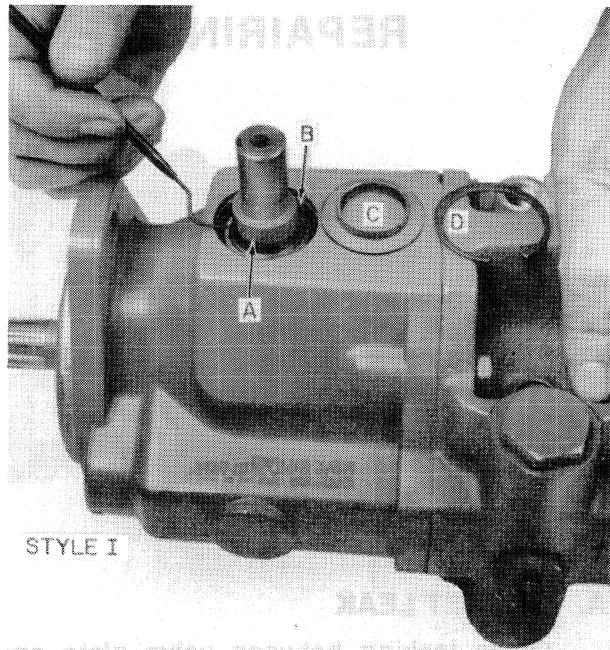

FIGURE 27
Style I seals are held in place with snap rings, Figures 27, 28 and 29.
(c) Remove snap ring and sleeve cover, Figures 27, 28 and 29. Use channel lock pliers to rotate and lift the sleeve cover off the pintle shaft.
(d) An O-ring tool, available from an auto supply store, is helpful in removing the quad-ring and O-ring, Figures 27 and 28.
- (e) Apply oil to O-ring and quad-ring. Install the O-ring, Figure 27. Use the O-ring tool to install the quad-ring. Be sure the quad-ring is not turned or twisted.